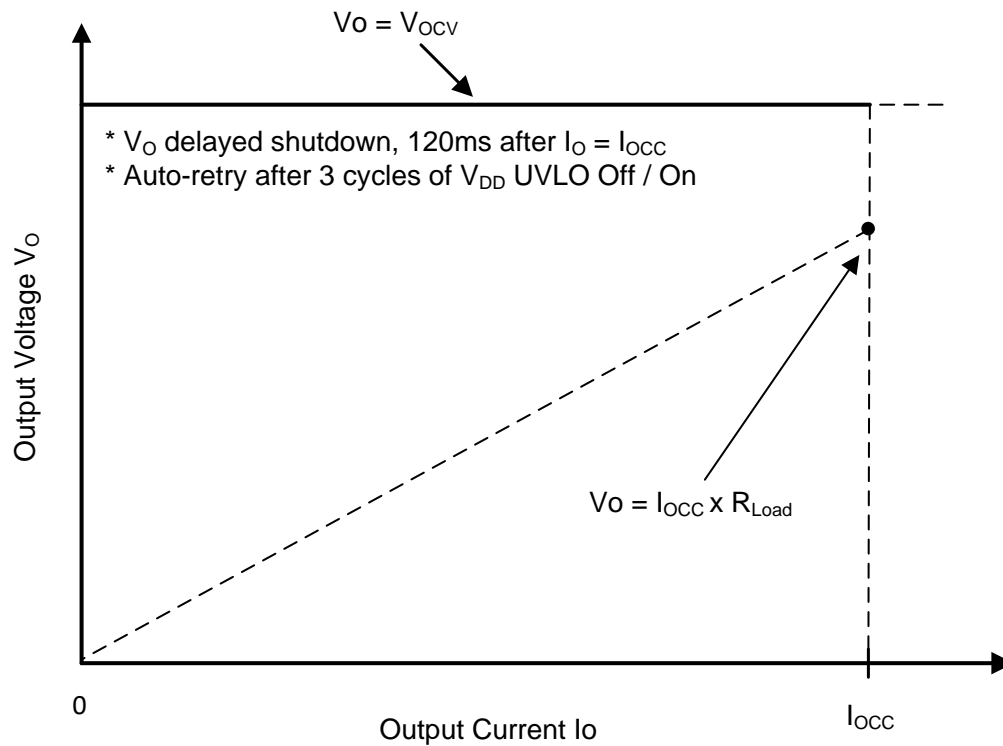
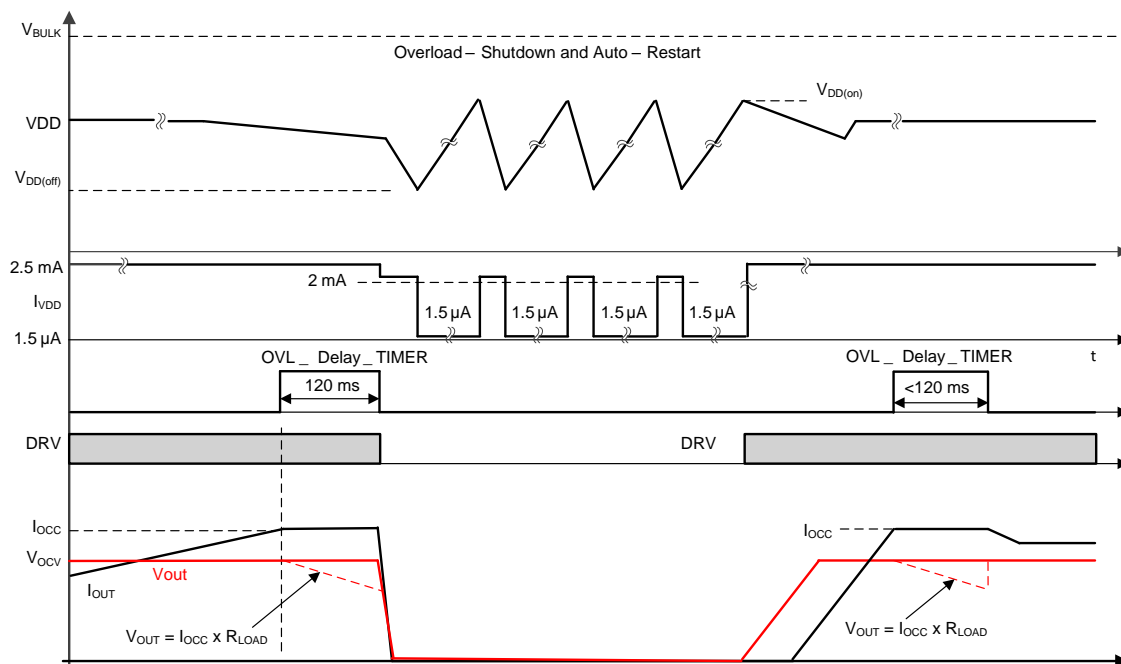

图 14. Typical Target Output V-I Characteristics
图 15. Output Delayed Shutdown Timing
As shown in 图 14 below, CV mode operation is from $I_O = 0$ to $< I_{OCC}$; at $I_O = I_{OCC}$, the operation enters constant current limit mode and V_O starts to drop as the load resistance becomes further lower while I_O is maintained at I_{OCC} for a time interval specified by t_{OVL_TIME} typically 120 ms then DRV stops to achieve converter output delayed shutdown. During the 120-ms timing interval, if load I_O reduces to $< I_{OCC}$, the timer will be reset and no shutdown will occur. The V-I curve corresponding to the operation is shown in 图 14, and the delayed shutdown timing diagram is shown in 图 15. Note (1) The timer t_{OVL_TIME} is triggered whenever I_O reaches I_{OCC} and reset when I_O drops to $< I_{OCC}$ before 120ms-time-out. (2) during 120-ms time interval, when load resistance becomes so low during constant current interval that causes the device VDD to reach its $V_{VDD(off)}$ and then the shutdown will be through VDD undervoltage lockout instead of through Constant Current Limit and Delayed Shutdown. In such a case, the shutdown can happen before 120ms timer out.